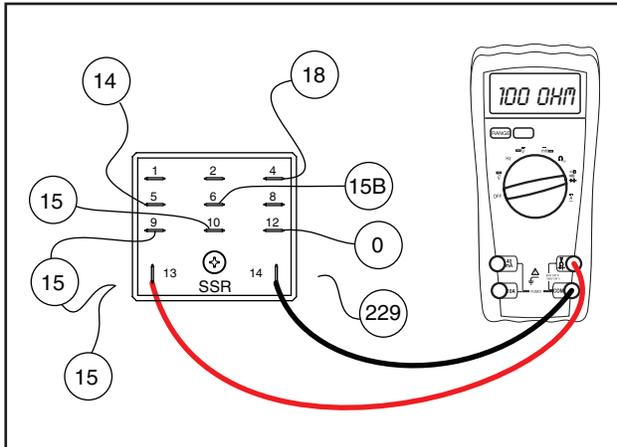

Figure 6-54. – Testing Start Stop Relay (SSR)
2. Disconnect Wire 15 and Wire 229 from the Start Stop Relay (SSR). See Figure 6-54.